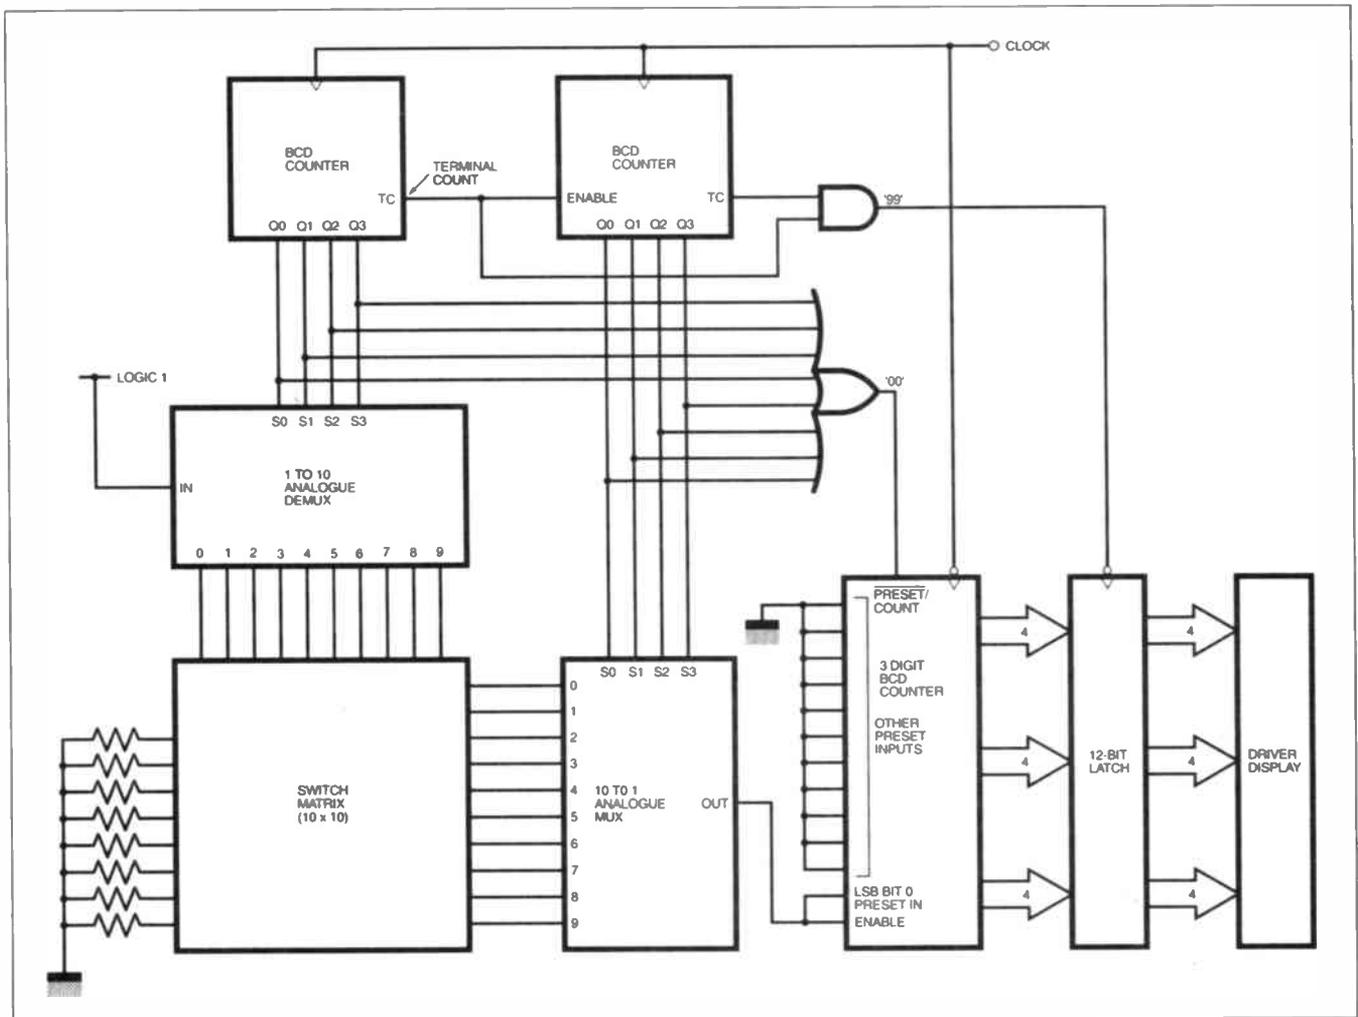

Fig.2. Matrix-scan based system to drive a display.
An outline schematic for a matrix-scan based solution to the 100 switch counting problem is shown in Fig. 2 (see next page). The column scan is controlled by a BCD counter connected to a CMOS analogue multiplexer/demultiplexer with its single input tied high. The BCD number selects
The continuous counting also means that the counter only holds the result for one clock cycle (after key 99 has been scanned), so we must latch the data into a register connected to the display. As the counter is clocked on the negative of the clock we can clock the latch on the positive edge. This signal can be derived from the TC outputs of both counters, as in Fig. 2, assuming that they are glitch-free.